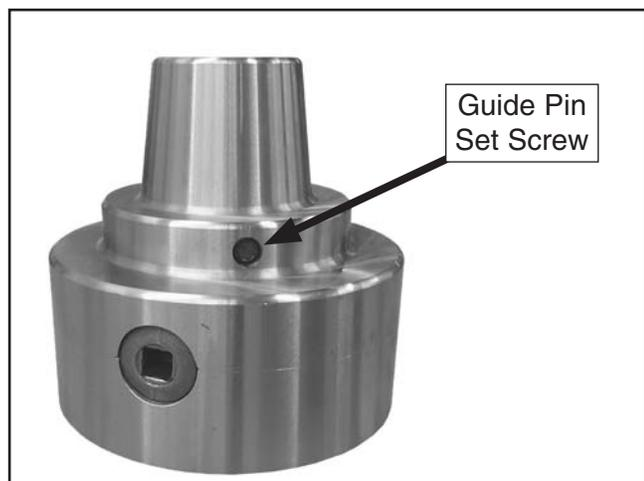

Figure 12. Guide pin set screw.
2. Use a 5mm hex wrench to remove the guide pin set screw shown in **Figure 12**.